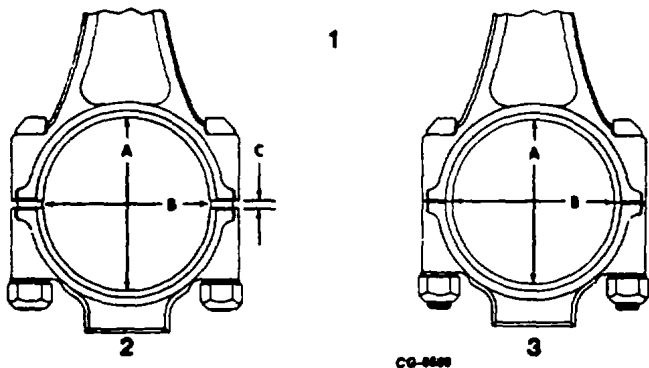

Figure 85. Illustration of Bearing "Crush"
26. When installing precision-type connecting rod or main bearings, it is important that bearing shells fit tightly in bearing bore. To accomplish this, the bearing manufacturer makes the diameter at right angles to the parting line slightly larger than the actual diameter of the bore into which they are assembled. When the assembly is drawn up tight, bearings are compressed, assuring a positive contact between bearing back and bore. This increased diameter is referred to as bearing "crush." (See Figure 85).